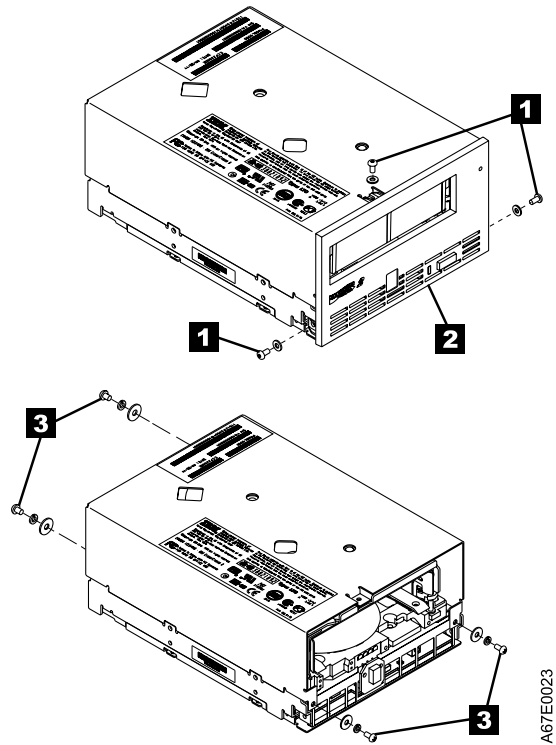

Figure 106. Removing the top cover of the drive
- a. Use an appropriate tool to remove the three screws and washers (see **1** in Figure 106 on page 257) that secure the bezel **2**. Remove the bezel.